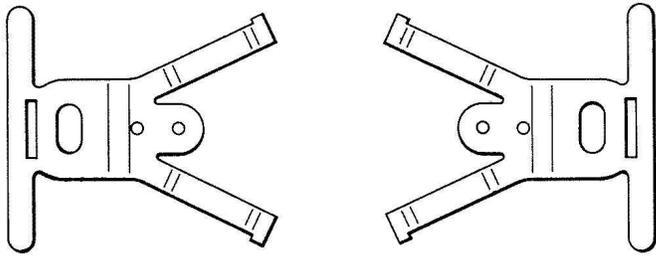

Fig. 27 — 74A Bracket
**3.04** The 74A bracket (Fig. 27) is used in mounting the 541A jack to an electrical outlet box. It is also used as a component of the 547A jack. The 74A bracket consists of two identical metal brackets.